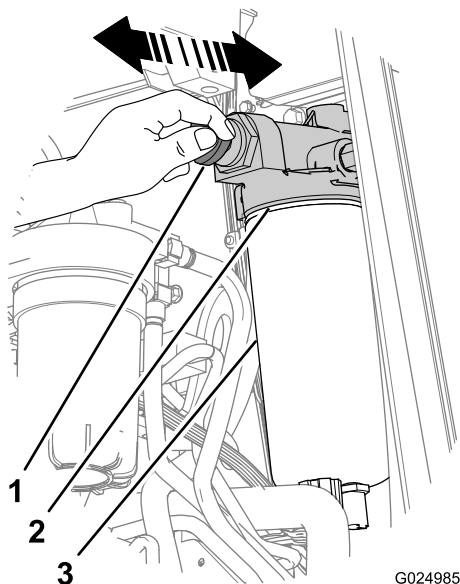

Figure 81
3. Clean the fuel-pump head and the priming pump using a quick-dry spray cleaner and compressed air (Figure 81).
4. Unlock the priming-pump handle by turning it **counterclockwise** (Figure 81).
5. Pump the primer handle (Figure 81) until you feel resistance and the handle cannot be pumped anymore (approximately 140 to 150 strokes for dry filters or 20 to 60 strokes for pre-filled filters).
6. Lock the manual priming pump handle by turning it clockwise until it is fully seated (Figure 81).